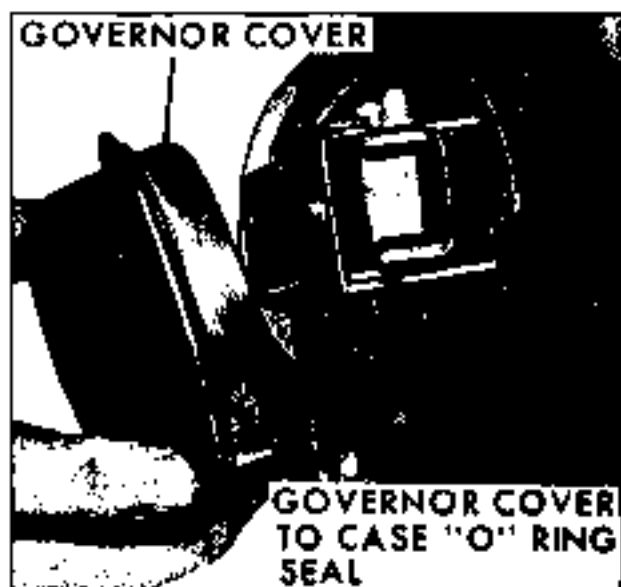

Fig. 7G-13 Removing Governor Assembly
3. Remove vacuum modulator attaching screw and retainer clip, modulator, O-ring seal and modulator valve from case. Discard O-ring seal (Fig. 7G-9).
2. Remove four (4) extension housing-to-case attaching bolts, extension housing and its square cut oil seal from case or housing (Fig. 7G-10).
3. If necessary to replace, pry lip oil seal from extension housing, using a screwdriver (Fig. 7G-11).
4. Depress speedometer drive gear retaining clip and slide speedometer drive gear off output shaft (Fig. 7G-12).
6. Pry governor cover and O-ring seal from case and withdraw governor assembly. Discard O-ring seal (Fig. 7G-13).